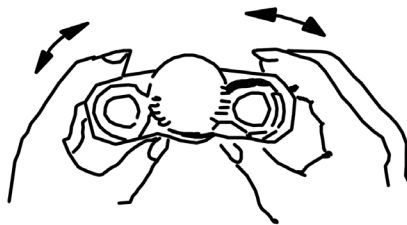

FIG. 6
- (1) Adjust the binocular for fitting the pupil distances. Focus the specimen and combine the left and right view fields into one by adjusting the interdistances of the binocular. (shown in Fig. 6)